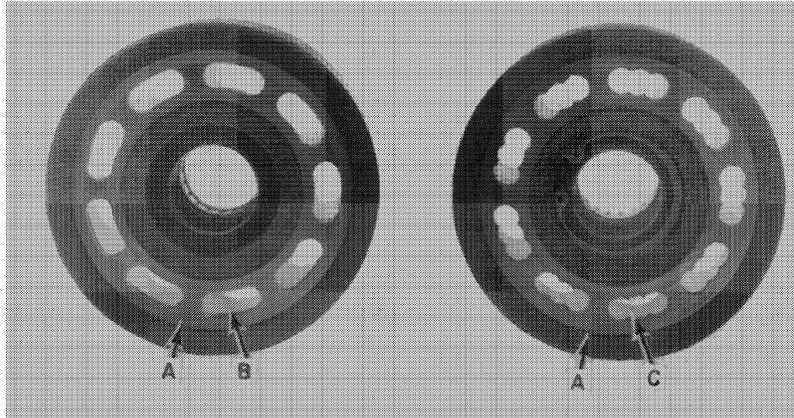

FIGURE 4-19
- b. Surface, A, Figure 4-19, is worn or grooved or shows metal buildup. Nicks must not extend from the cylinders to the edge of the raised area, A.
- c. Cylinder ports may be milled, B, or drilled, C, Figure 4-19 (two types of blocks).